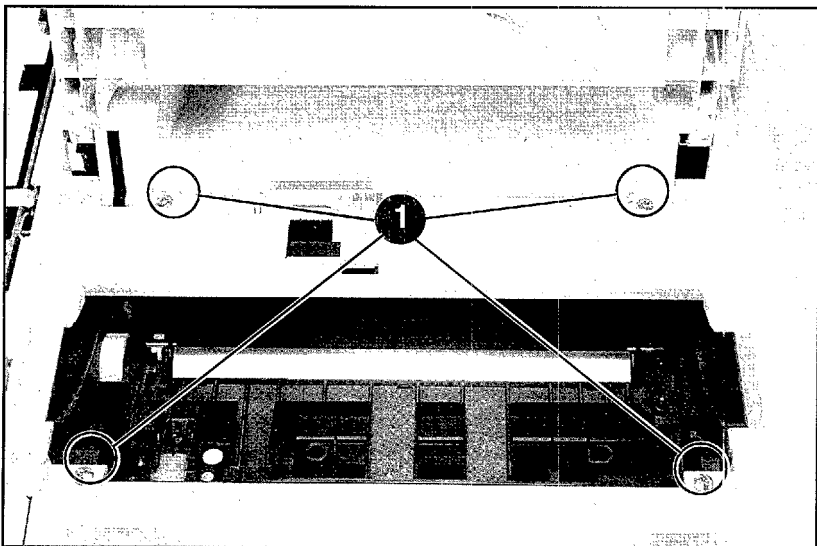

Figure 15 Removing the Top Cover Screws
2. Remove the (4) self-tapping printer cover screws (Figure 15).